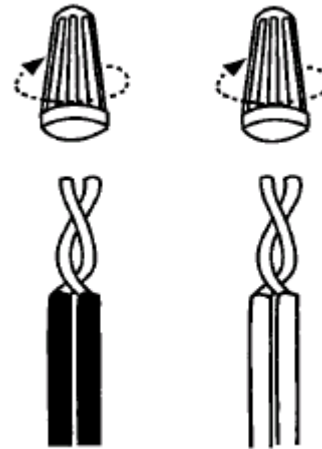

Figure 9. Field and Air Handler Wire Connections.
4. Using UL listed wire nuts; connect the field supply wires to the air handler, black-to-black and yellow-to-yellow (240V) or white to white (120V), as shown in Figure 9.